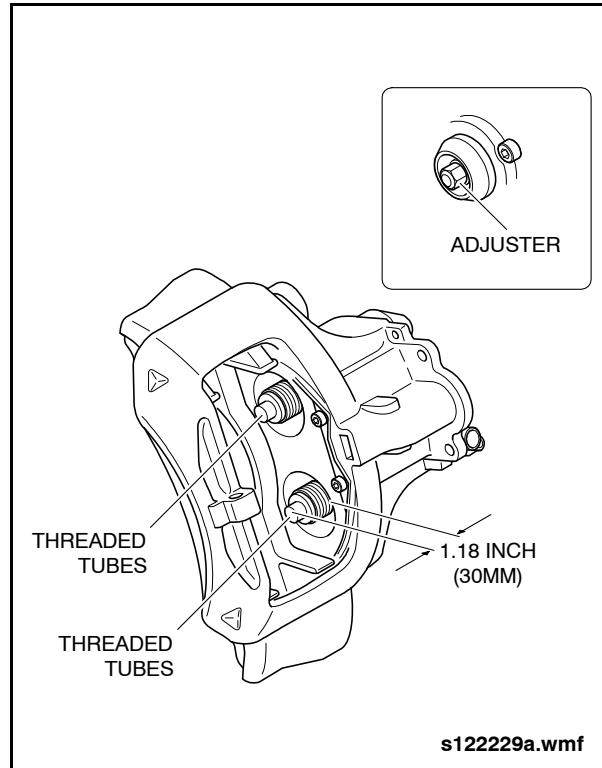

Fig. 2-137: Inspecting Threaded Tubes
1. Rotate the adjuster clockwise until the end of the threaded sleeve extends 1.18" (30 mm) from the caliper surface. See "Fig. 2-137: Inspecting Threaded Tubes" on page 116.